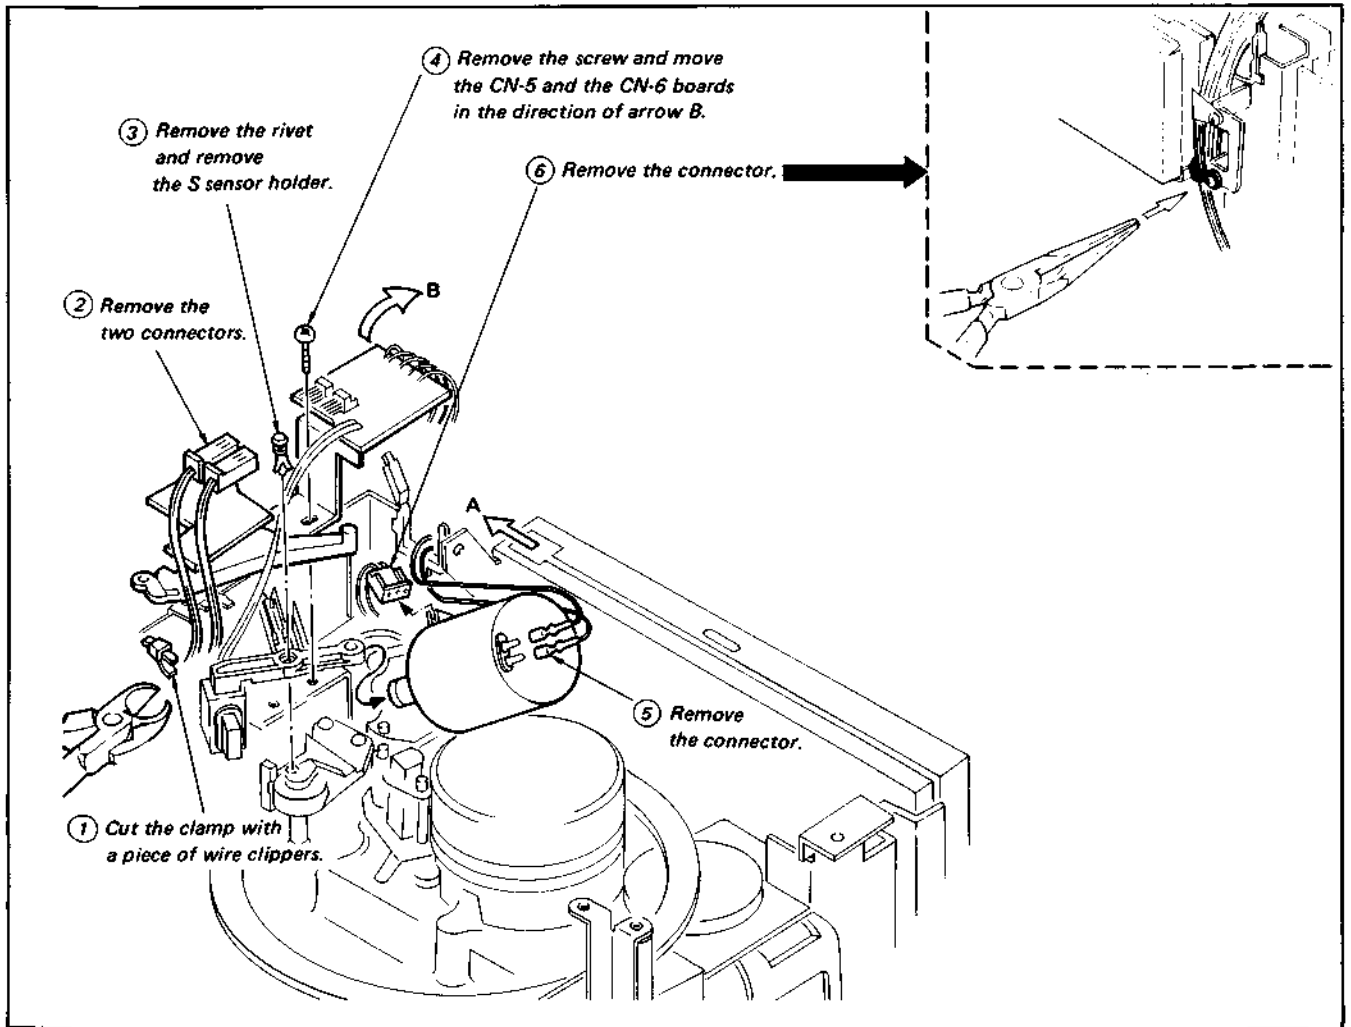

Fig. 3-8. Replacement of DC motor (2)
3. Take out the DC motor, following Steps ① to ⑥ shown in Fig. 3-8.